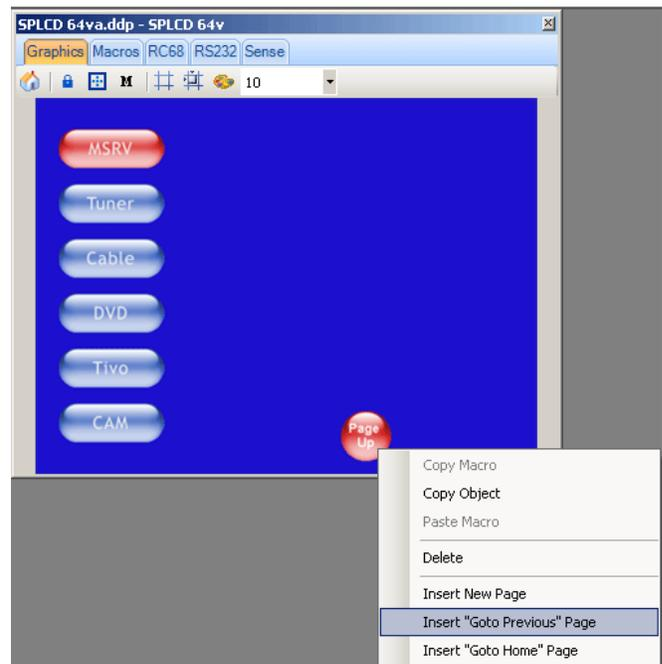

Figure 26 – Go To Previous Page
7. Right-click on the button from **Step 6** and select **Insert Go To Previous Page** from the **pop-up**. (**Figure 26**) While programming in **Universal Dragon**, once configured as a **'Go To' Button**, the button can double clicked to navigate as configured, i.e. **Page Up**.